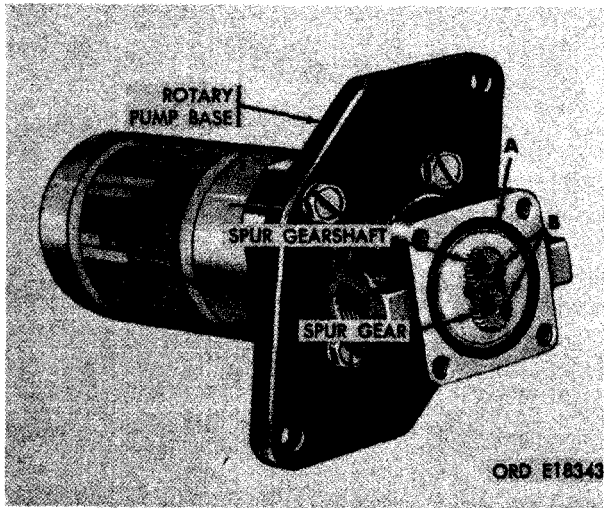

FIGURE 416. REMOVING OR INSTALLING SPUR GEAR AND SPUR GEARSHAFT.
- (2) Figure 416. (A) Remove 43/64 id x 0.070 thk preformed packing from rotary pump base and discard packing. (B) Remove spur gearshaft and spur gear from rotary pump housing.